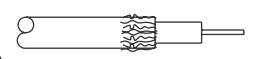

FIGURE 3
5. If using single braid cables, fold the braid over the jacket. If using double braid cables, fold the outer braid over the jacket. Score and remove foil (if applicable). Fold the inner braid over the jacket (Figure 3).